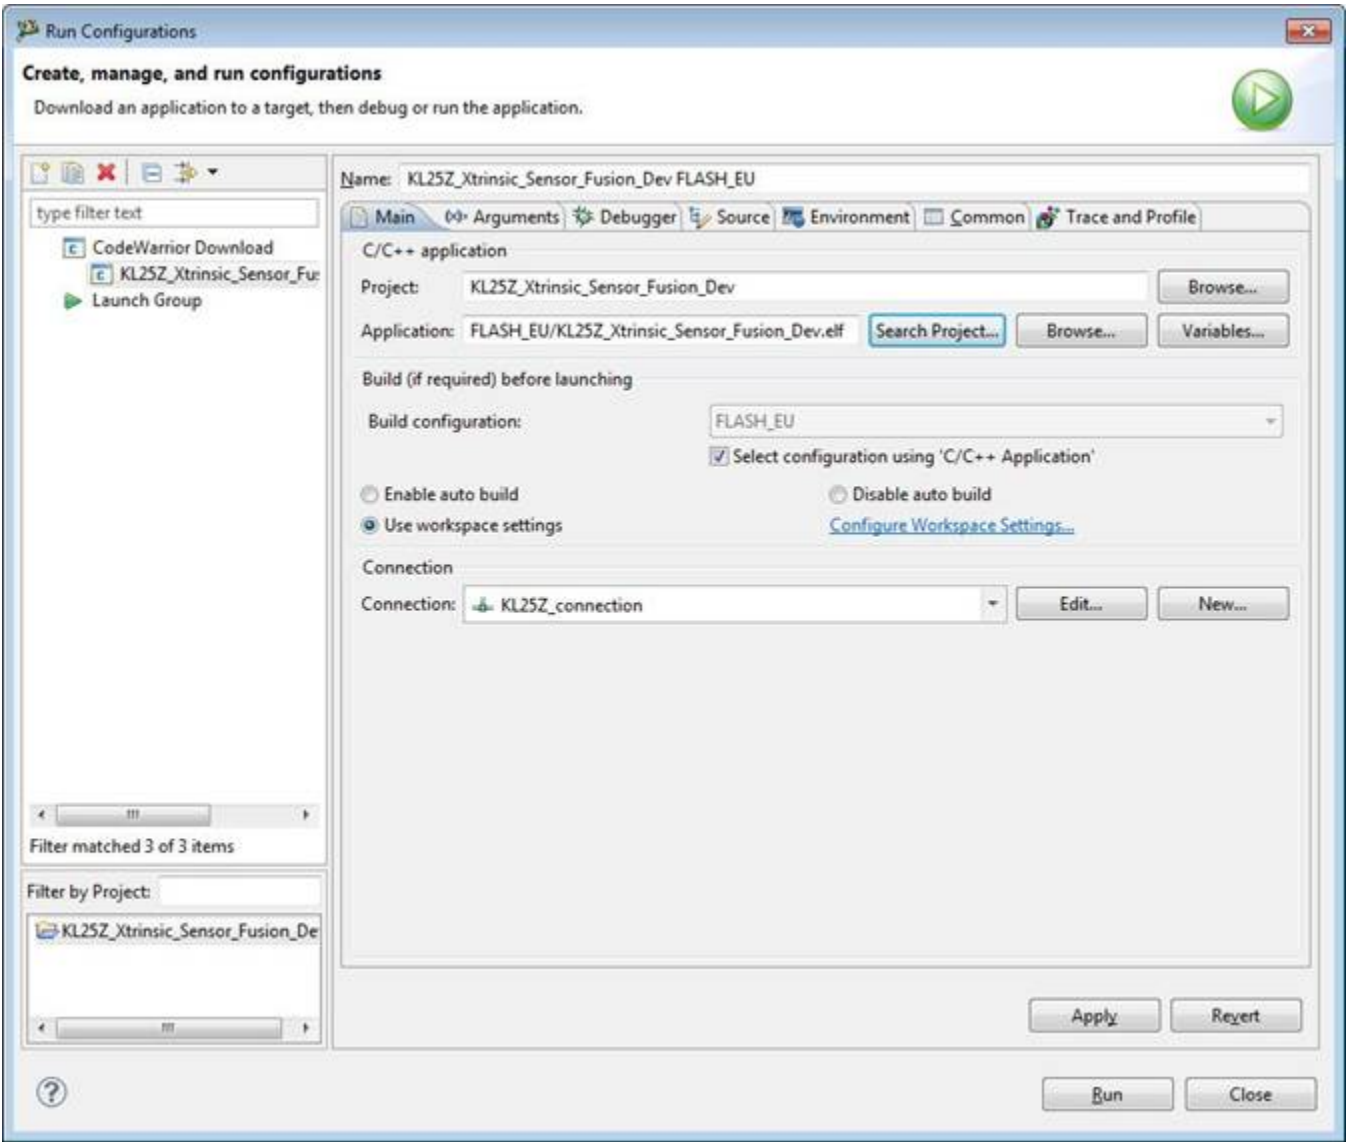

Figure A-8. Setting the elf file in CodeWarrior
11. Modify the **Application** field on the dialog (shown in Figure A-8) to include the elf file (produced during the **Build** step) to download.